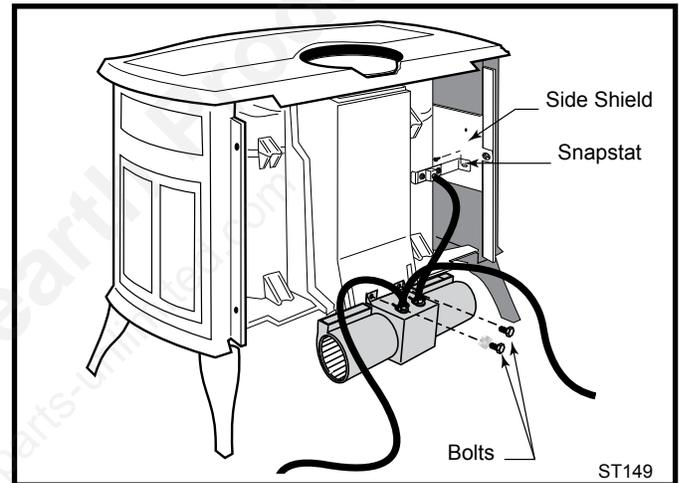

Fig. 17 Attach blower assembly and snapstat.
2. Remove the rear shroud panel (Fig. 17) and fasten the blower assembly to the firebox back with the two bolts provided. (Fig. 17)
3. Attach the snapstat assembly to the snapstat bracket with two sheet-metal screws. Attach the snapstat bracket to the side shield. (Fig. 17)